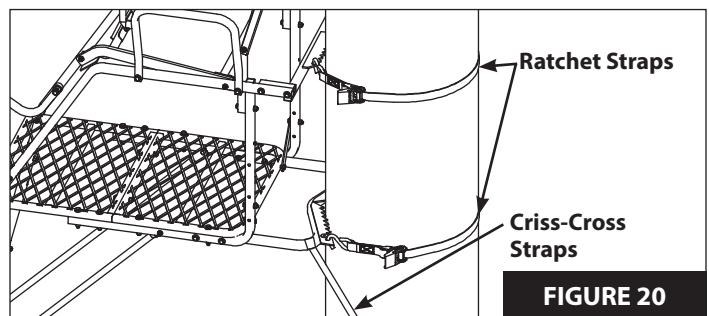

FIGURE 20
7. a. Standing on ladder step, lean toward tree with ratchet strap now in hand, Hook "S" hook with long strap through hole provided on tree blade. Feed the long strap through the center (slot) of ratcheting mechanism and back around through tightening lever. **SEE FIGURES 20, 21A AND 21B.**
c. Repeat steps 7a and 7b for connecting the additional ratchet strap (42) on the lower tree blade (2). **SEE FIGURES 20 AND 21A-C.**